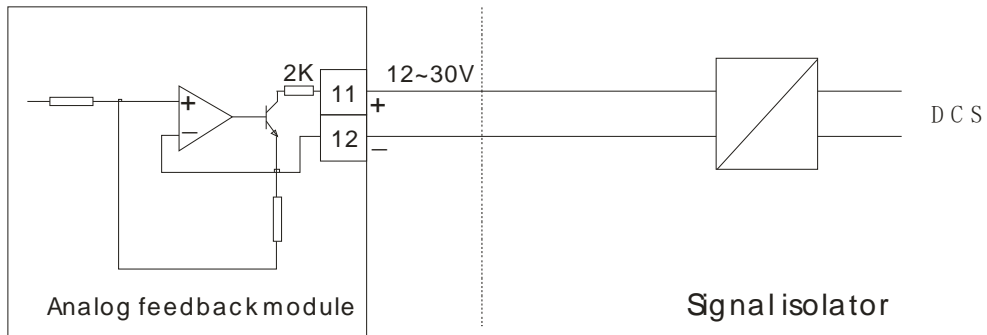

Figure 8: Analog Feedback Model Electronic Connection
4.6.2 Analog feedback module electric connection (Figure 8):